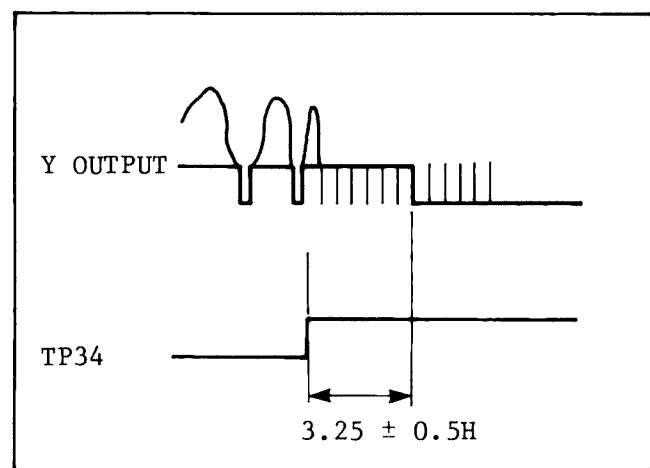

Fig. 2-4-9. PG SHIFTER B
12. Adjust VR13 (PG SHIFTER B) so that the rising edge of the switching pulse is $3.25H \pm 0.5H$ before the start of the vertical sync, as shown in Fig. 2-4-9.